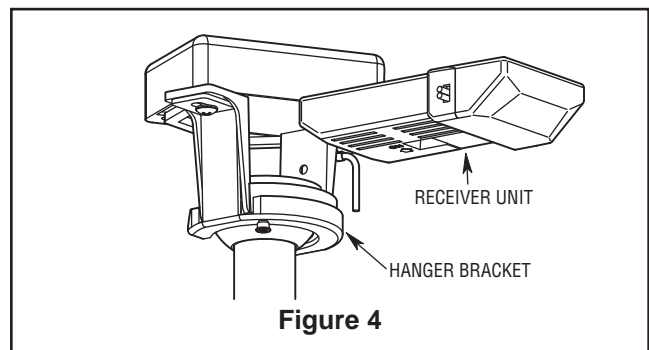

Figure 4
4. Route wires through motor coupling cover, canopy screw cover and canopy (Figure 4).
3. Slide the receiver unit into the open end of the hanger bracket (Figure 4).
- 4. Connect the 2-pin connector from the socket plate assembly to 2-pin connector from motor assembly (Figure 4).
- 4. If airflow is desired in the opposite direction, turn the fan off and wait for the blades to stop turning. Slide the coupling cover up to expose the reverse switch. Then slide the reverse switch on top of motor assembly to the opposite position and turn fan on again (Figure 4).